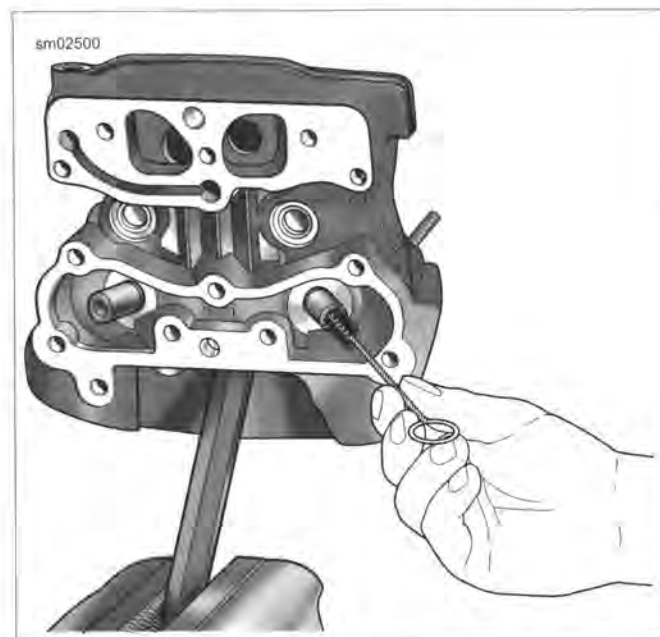

Figure 3-41. Scrubbing Valve Guide Bore
7. See Figure 3-41. Clean with the VALVE GUIDE CLEANING BRUSH (Part No. HD-34751).